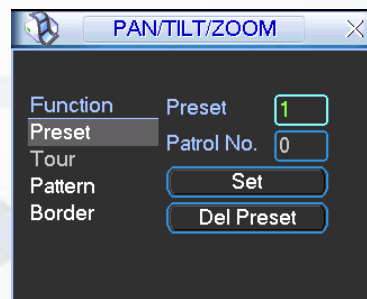
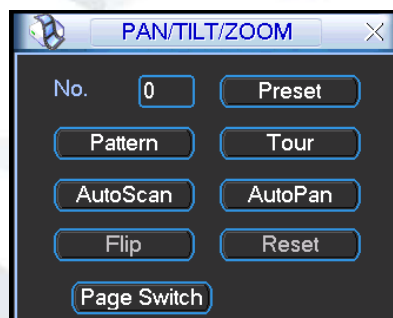

Figure 4-45
Figure 4-46
In Figure 4-42, please click the “set” button. The interface is shown as below. See Figure 4-45. Here you can set the following items:
In Figure 4-42, click page switch button, the interface is shown as in Figure 4-46.
- The following setups are usually operated in the Figure 4-42, Figure 4-45 and Figure 4-46.
In Figure 4-45, click preset button and input preset number. The interface is shown as in Figure 4-47.
In Figure 4-46, please input preset number in the No. blank, and click preset button.
In Figure 4-45, input patrol (tour) number in the No. blank and click patrol button
In Figure 4-45, click pattern button and then click "begin" button. The interface is shown as in Figure 4-49. Then you can go to Figure 4-42 X to modify zoom, focus, and iris. Go back to Figure 4-49 and click "end" button. You can memorize all these operations as pattern 1.
In Figure 4-46, click "Auto Scan" button, the system begins auto scan. Correspondingly, the auto scan button becomes Stop button. Click stop button to terminate scan operation.
In Figure 4-46, click page switch button, you can see an interface is shown as below. See Figure 4-51. Here you can set auxiliary function. The aux value has relation ship with the Aux button of the decoder.